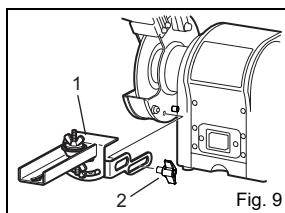

Fig. 9
■ Assembly and attach saw blade sharpening kit as in Fig. 9.